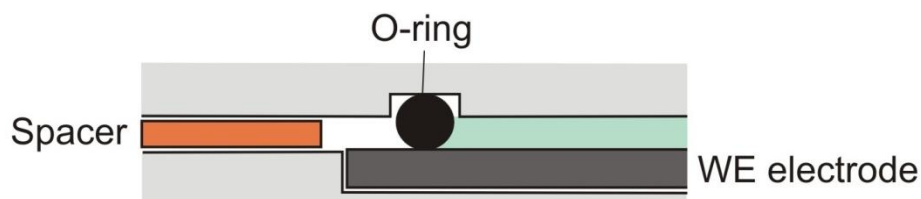

Fig. 12. Schematic drawing of the sealing construction in an μ -PrepCell.
6. The spring-loaded contact pin from the WE holder will assure proper electrical contact with the working electrode (Fig. 12).